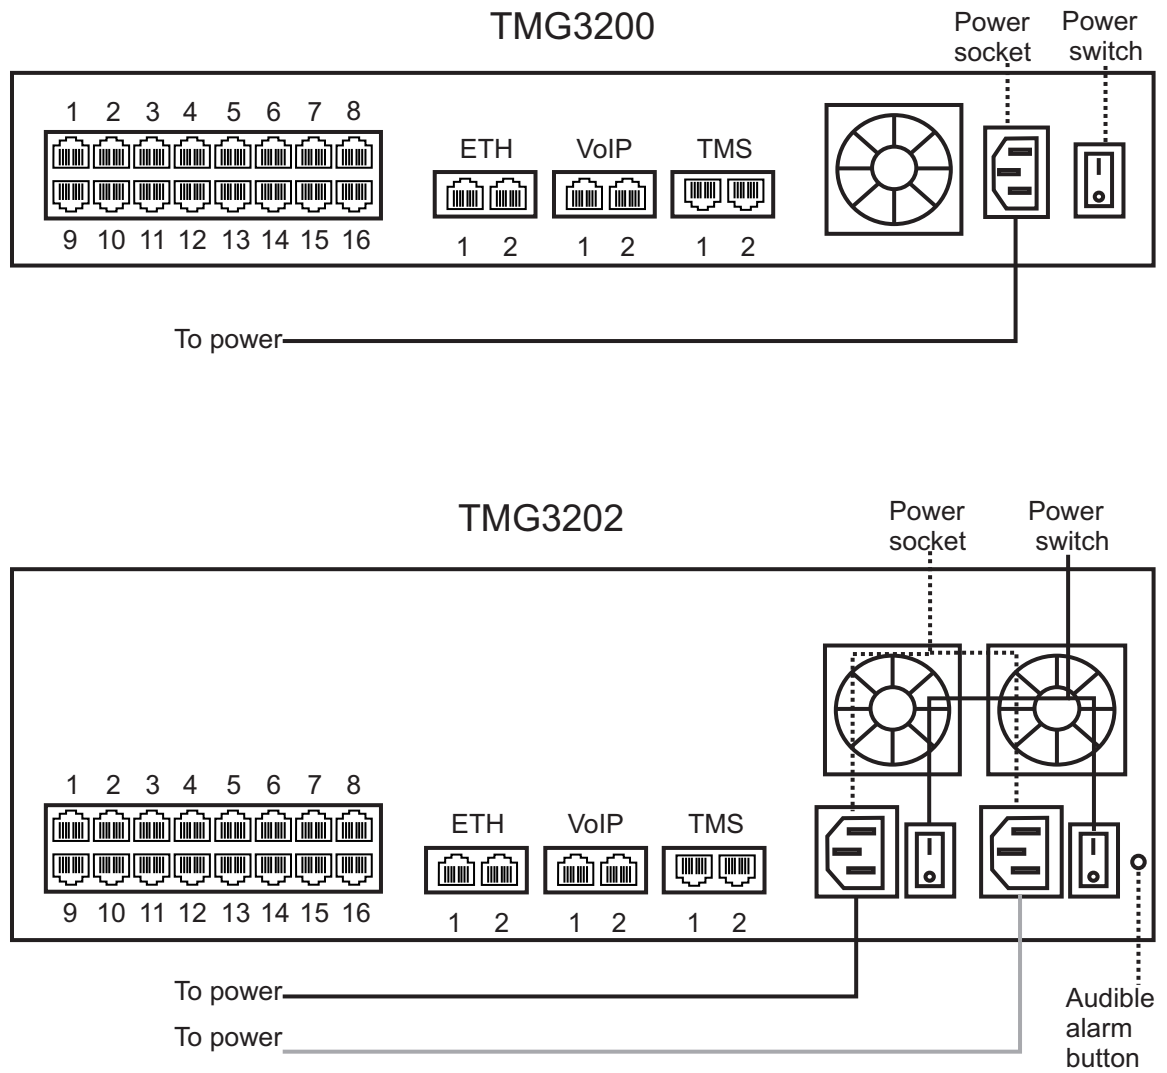

Figure 2.8 AC Power Connection
1. Connect one AC power cable between the AC connector of the TMG3200 and an AC supply. See figure 2.8 on page 19. If the TMG3200 features a second AC connector, connect an additional AC power cable between this connector and an AC power supply. If the TMG3200 features a second power supply and it is not connected to an AC power source, press the green button located at the rear of the unit to disable the audible alarm. See figure 2.8 on page 19.